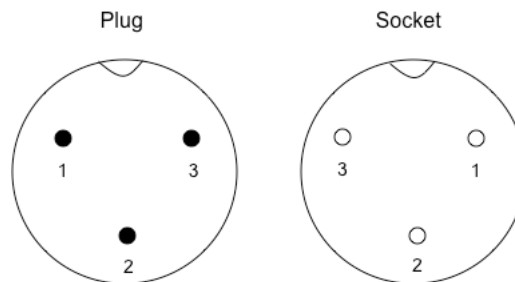

Figure 6 – "em069A-3" connector
The recommended pinout for the "em069A-3" connector is provided in Table 9. The connector is called "em069A-3" and is manufactured by Embedor, Beijing (CN). Figure 6 illustrates a "em069A-3" connector.